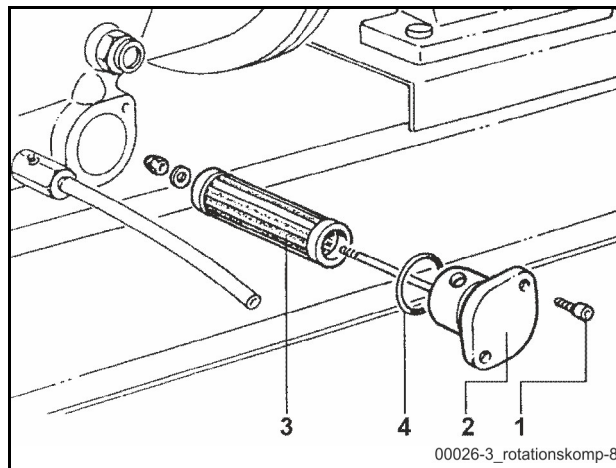

Fig. 363 Oil filter
- Loosen the screws **(1)** on the filter cover **(2)** **(Fig. 363)**.